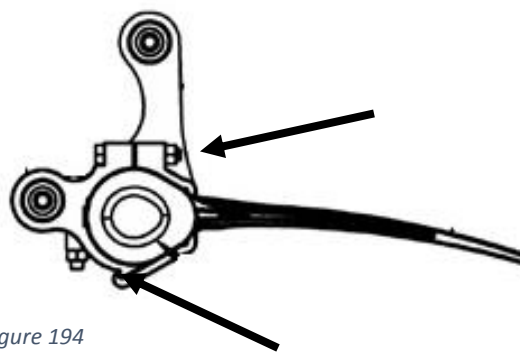

Figure 194
2. After the reel is removed the spider clamp can be removed by removing the clamp bolts. Figure 194